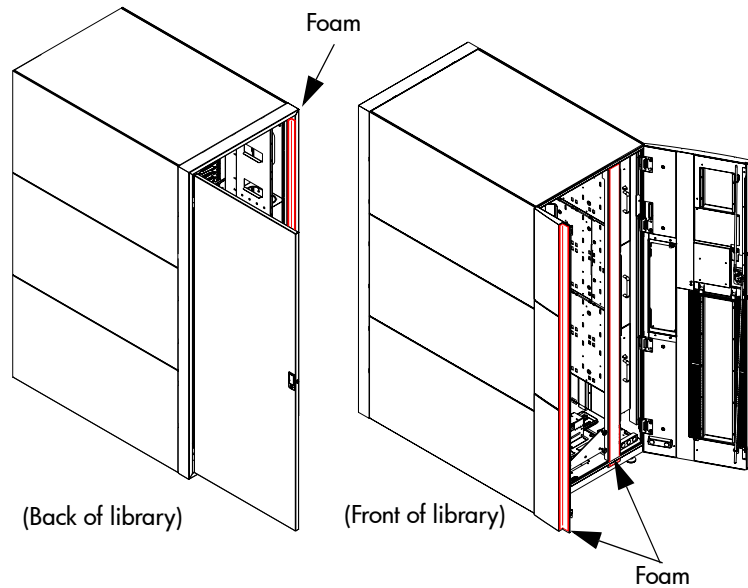

Figure 41: Adding the shipping foam inside the library
- From the front of the library, add the foam to the Y-axis cover plate, to the left front door, and also to the back door frame (see Figure 41).